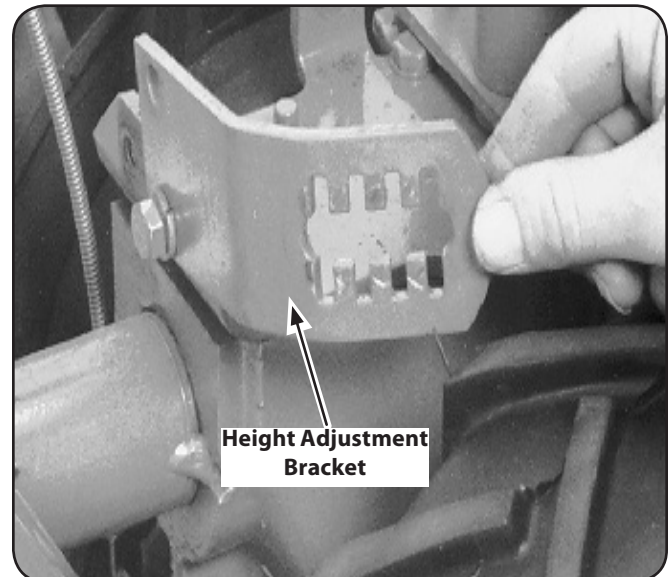

Figure 3-1
1. On electric start machines, remove one screw and lock washer from the curved height adjustment bracket. Loosen the second screw and swing the bracket to one side. See Fig. 3-1.